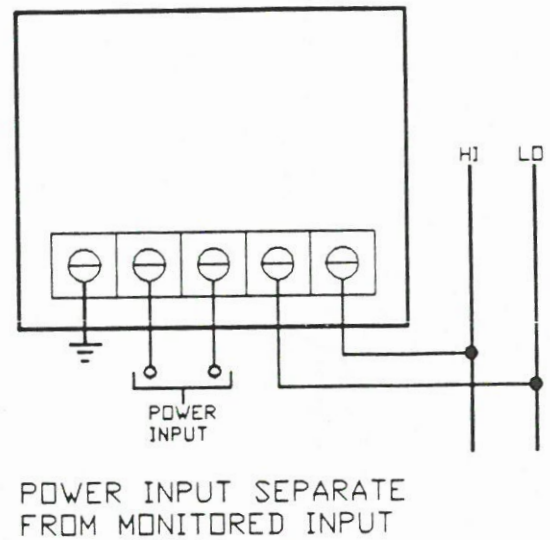

FIG. 4
- Power input separate from monitored input, as shown in Figure 4.